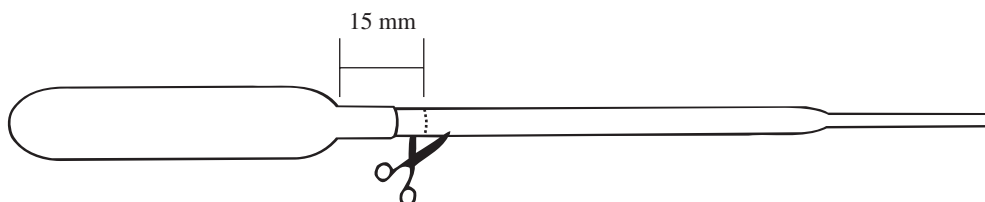

Figure 1. Cutting the Pipet
1. Cut off all but 15 mm of the pipet stem (see Figure 1).